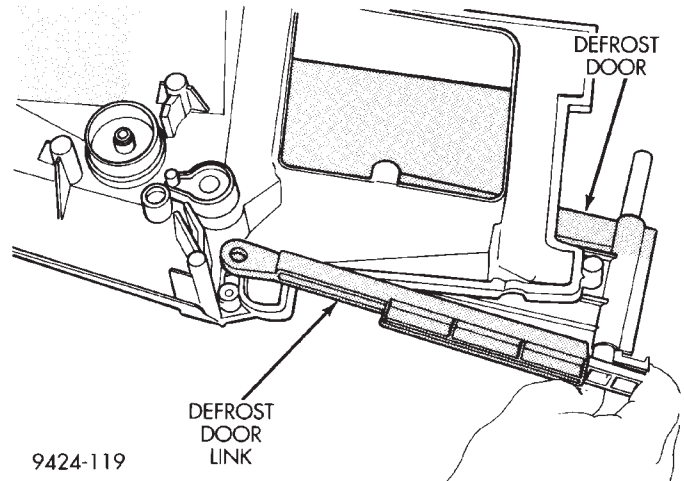

Fig. 84 Defrost Door and Link
- (1) Install vent door actuating arm to lower housing.
- (2) Install defrost door link to defrost door.
- (3) Install door and link into A/C housing (Fig. 84).